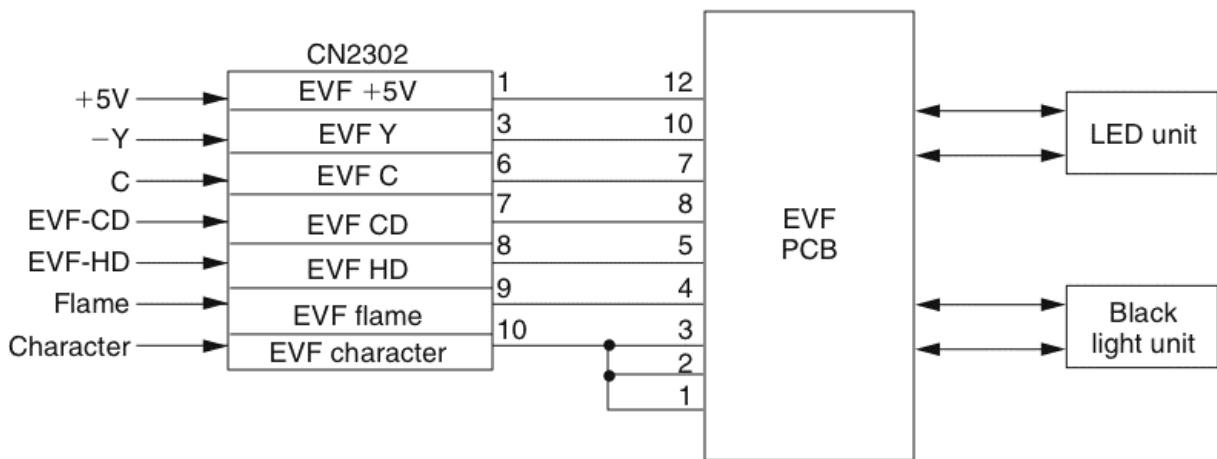

FIGURE 34-21 The 8-mm EVF PC board, LCD, and black-light unit circuits.
The EVF luma (Y) and chroma (C) signal is fed into pins 3 and 6 of CN2302 socket connections. The EVF HD and VD are fed at pins 7 and 8. EVF flame and EVF character are found on pins 9 and 10. The EVF PC board drives the LCD unit and black light unit (Fig. 34-21).